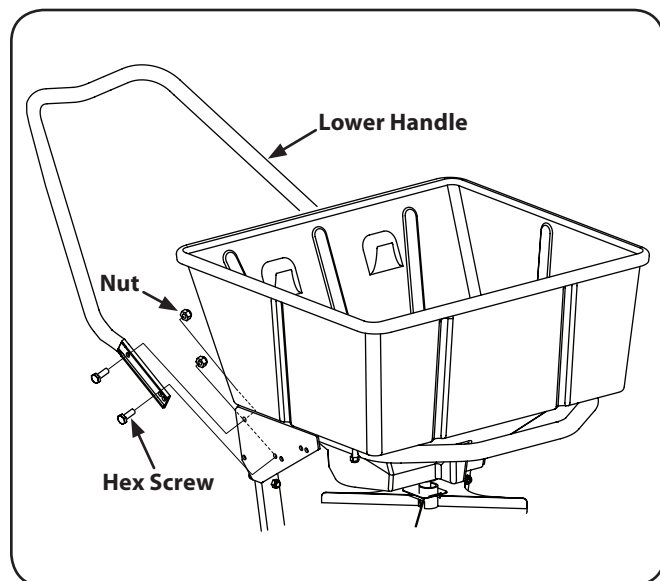

Figure 3-4
2. Attach the lower handle to the frame (with the "V" section of the closed section of the handle facing down) using four hex screws ($\frac{1}{4}$ -20 x $\frac{3}{4}$) and four nuts ($\frac{1}{4}$ -20). See Fig. 3-4.